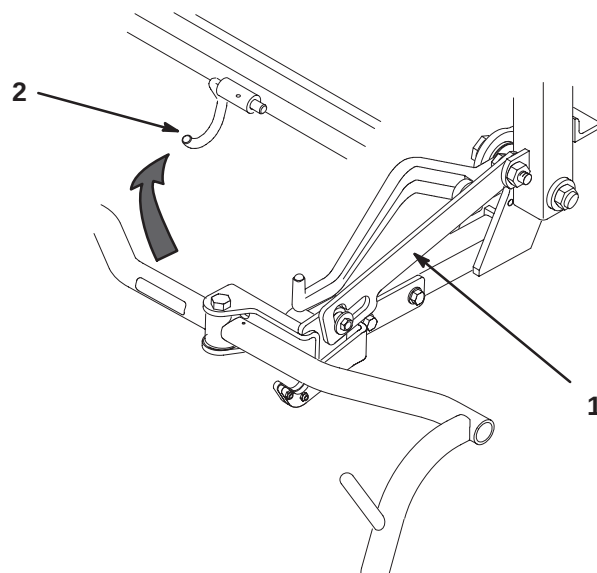

**Figure 11**
4. Thread a ball stud into each end of the cutting unit front roller (Fig. 11).